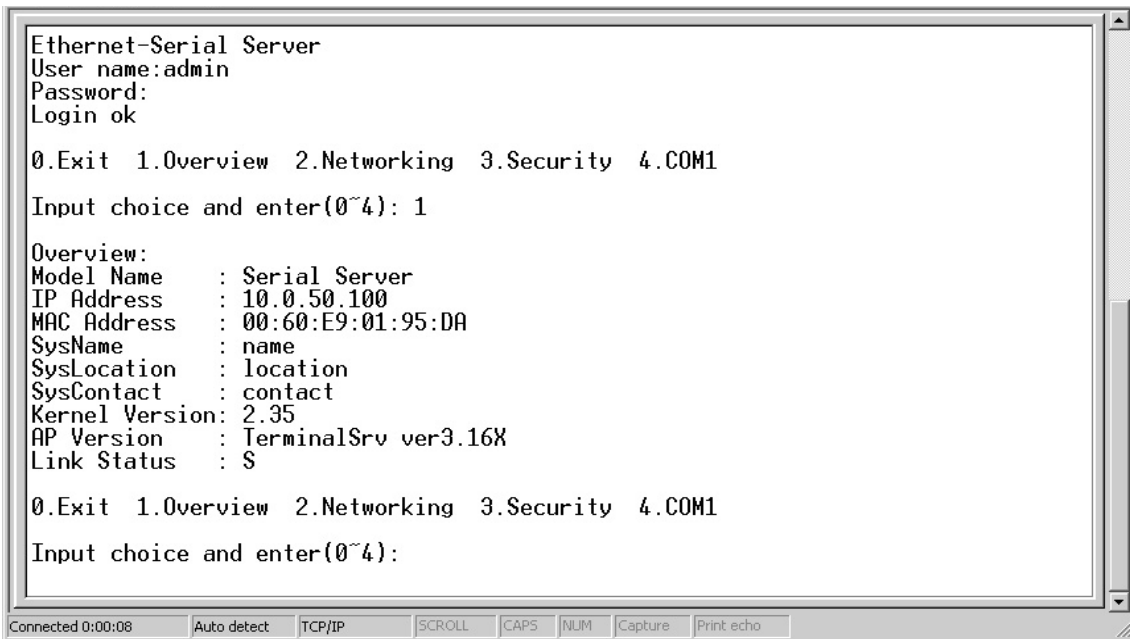

Figure 3.6 Overview
4. Select 1 from **Input choice and enter (0~4):** to enter the overview page as follows:(Figure 3.6)